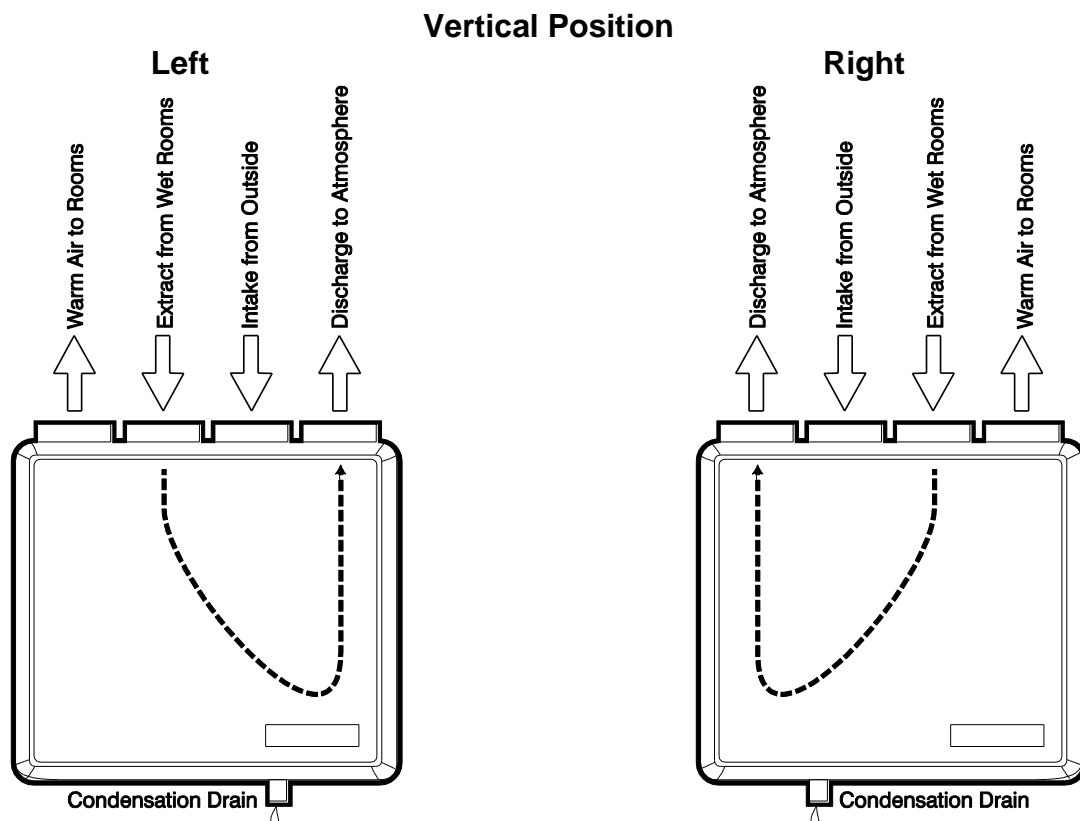

Figure 3: Connection of HR unit to drain pipe
The unit can easily be set up for left or right handed operation. This can be done by changing the position of the condensation drain at the bottom of the unit. See figure 3 on page 4.
4. When the HR unit has been mounted, the ducting runs can be completed. Remember that both ducts to and from outside will be fitted to one side of the unit and the ducts to and from the home are attached to the other side of the unit. Also the condensation discharge under the unit can be fitted at this stage, please see figure 3 for reference on which side it should be fitted.